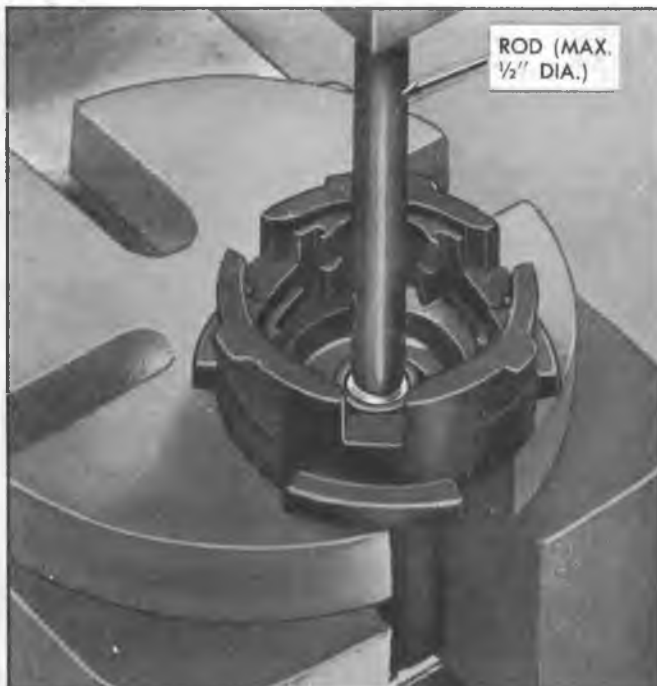

Fig. 6A—Removing Air Valve Assembly from Power Piston
21. Place the power piston (tube down) in an arbor press. Using a rod not exceeding 1/2" in diameter press the air valve assembly from the power piston (fig. 6A).